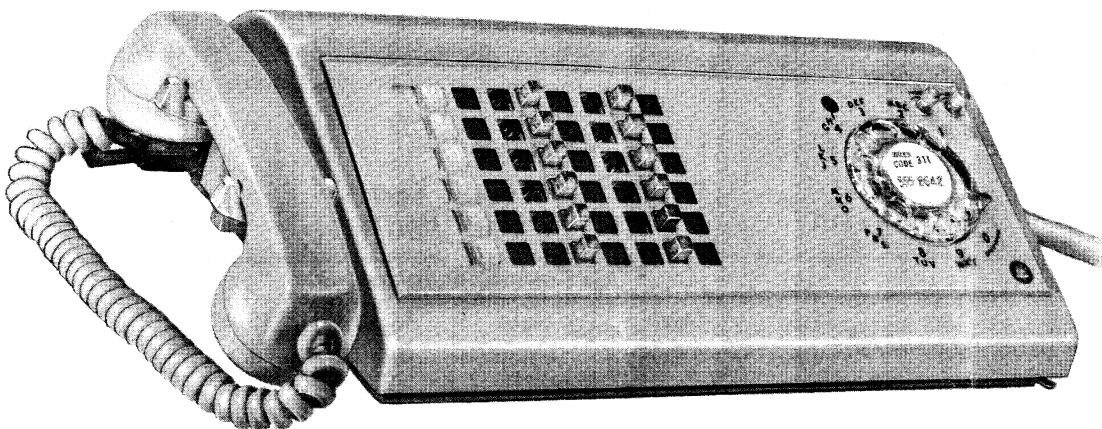
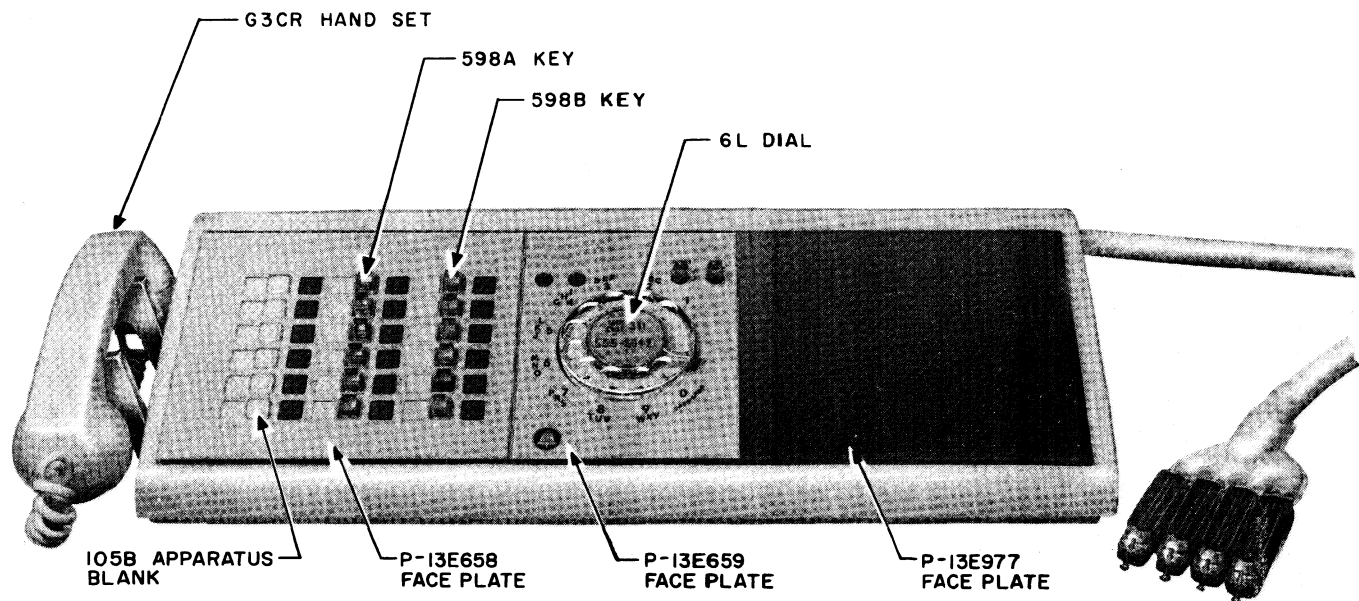

Fig. 1 — 5A1 Telephone Console
Fig. 2 — 6A1 Telephone Console
- 2.01** The 5A-type telephone console Fig. 1 is similar in electrical operation to the 6A-type except that the block key assembly is not provided for the 100 busy lamp field. The 5A-type is therefore smaller in size. It has a one-piece faceplate covering the keys and dial, whereas the 6A-type has three faceplates for the key, dial, and block key assembly. (See Fig. 2.)